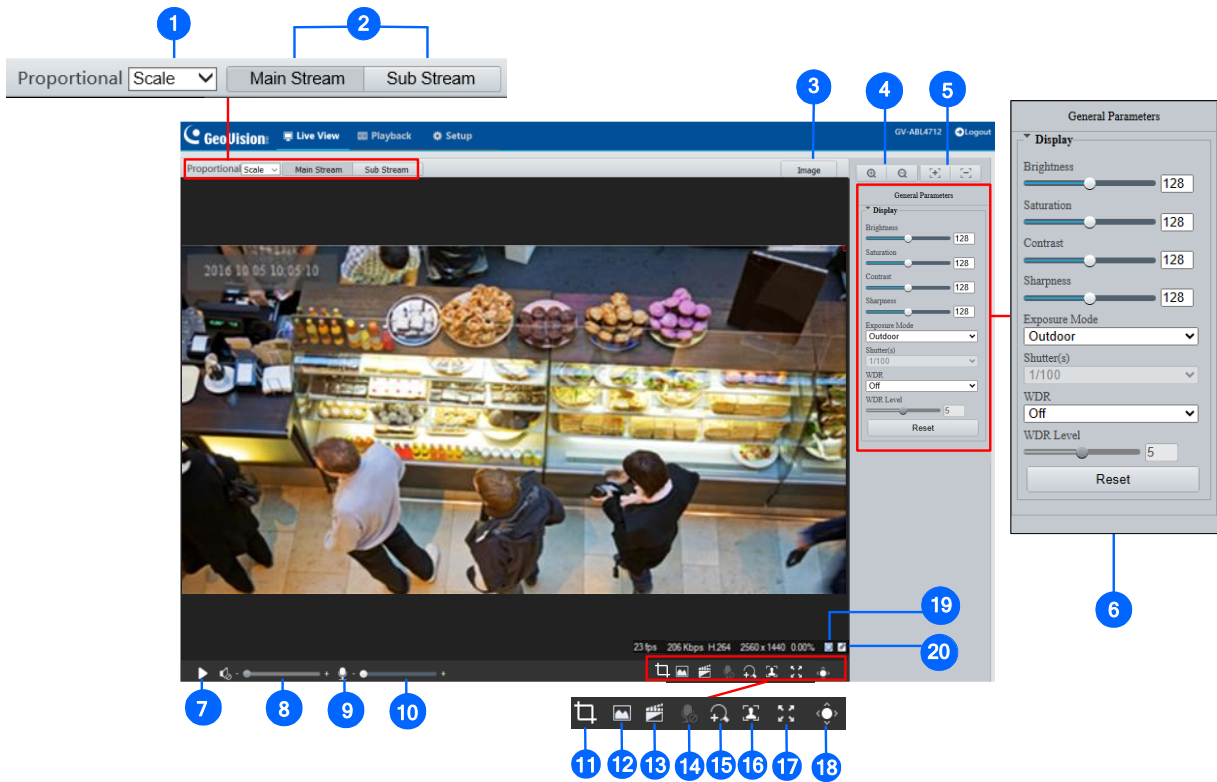

Figure 2-4
1. Click  (No. 16, Figure 2-3 / No. 15, Figure 2-4) on the toolbar.
4. To exit, click  (No. 16, Figure 2-3 / No. 15, Figure 2-4) on the toolbar.